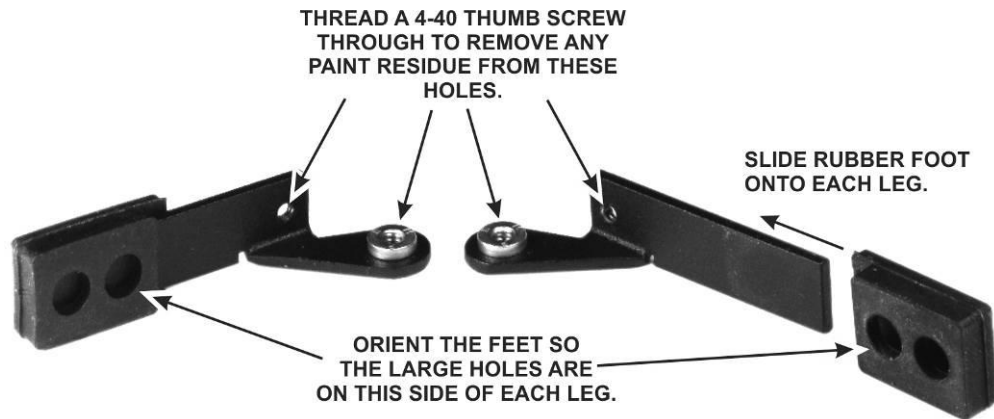

Figure 42. Preparing the Tilt Legs for Installation.
- Locate the two tilt legs and four rubber feet. Mount one rubber foot on each tilt leg as shown in Figure 42. The feet are held in place by friction. Be sure the feet are worked all the way onto each foot as shown.